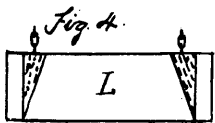

Fig. 4.
Fig. 4 and 5 show a section and plain view of trip-block (L).